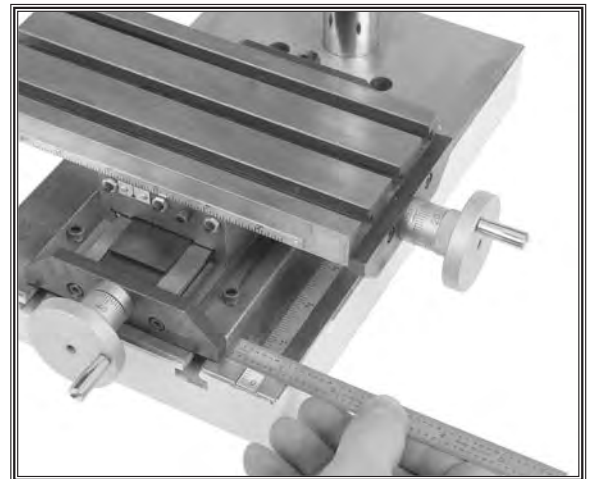

Figure 10. Aligning the compound slide table.
4. Measure at the front and back of the compound slide table as shown in **Figure 10** to make sure the compound slide table is parallel to the base.